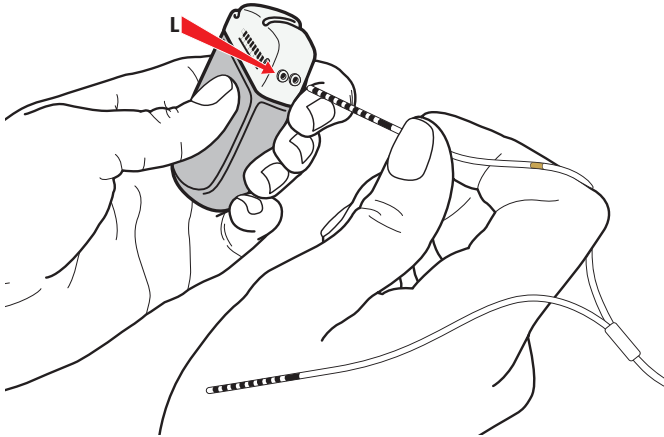

Figure 37. Connection to IPG Port L
1. Connect the Lead Extension tail with the gold marker band to Port L (or C) (Figure 37).